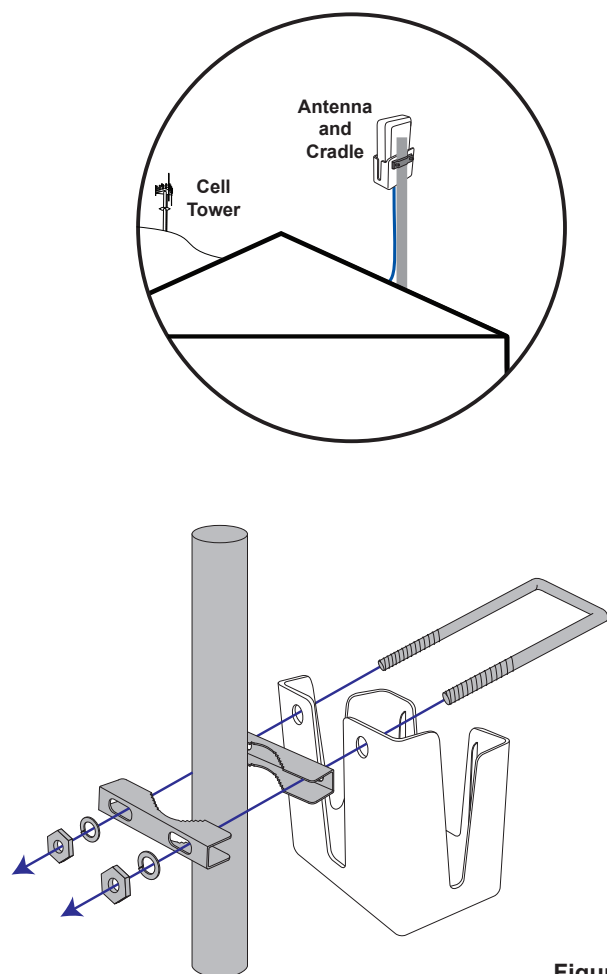

Figure 7
2. Insert the supplied U-bolt through the holes in the cradle and slide one half of the bracket assembly onto the U-bolt (see Figure 7).